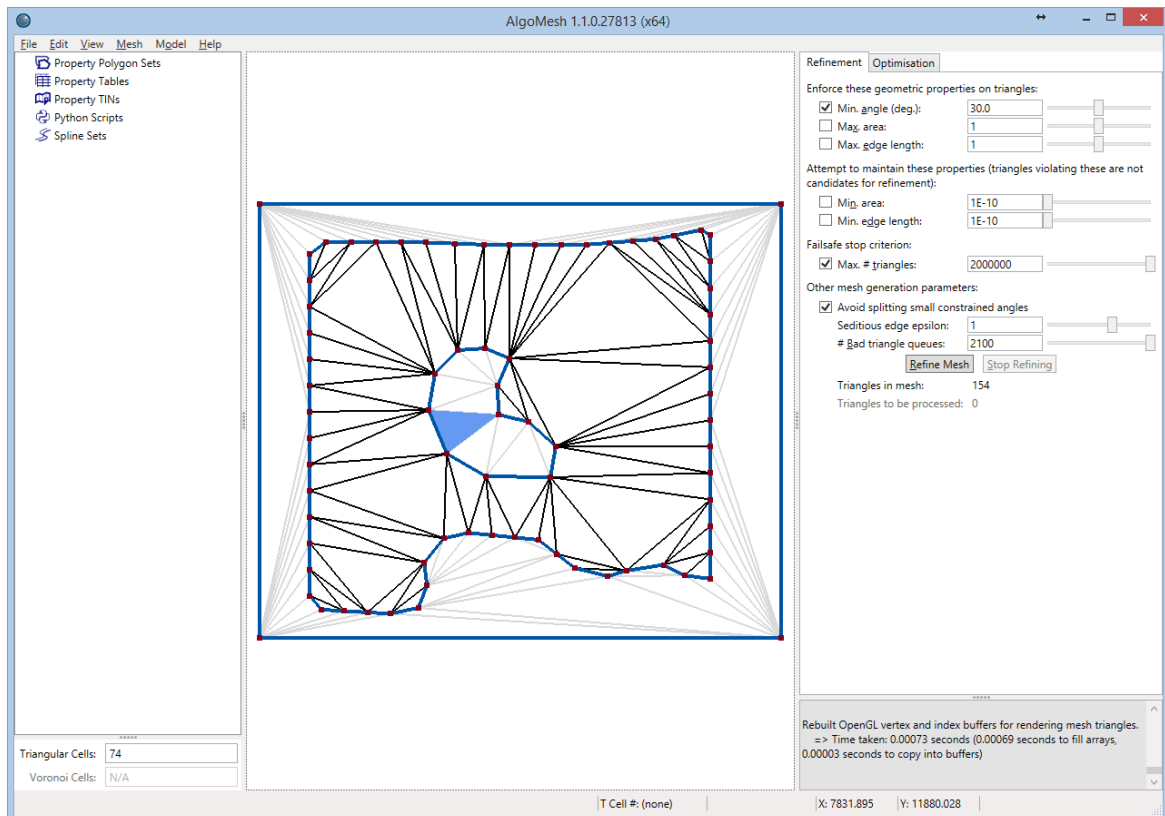

Figure 70: Pressing the '-' (minus) key with a triangle selected causes the bounded region containing that triangle to be removed from the mesh domain.
- Press the **'-' (minus)** key. The entire set of triangles inside the polygon should turn a light grey colour as in Figure 70, indicating that this area is now considered "outside" the mesh, and will not form a part of the domain for mesh generation. If you make a mistake and select the wrong region, simply select the triangle and press the **'+' (plus)** key.